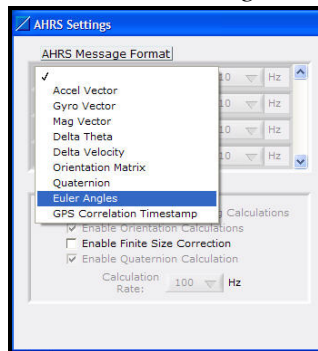

Figure 3. AHRS Message Format menu
- Select Euler Angles in the AHRS Message Format pane by clicking the drop-down arrow as shown in Figure 3. Leave the default sampling rate of 100Hz as-is.